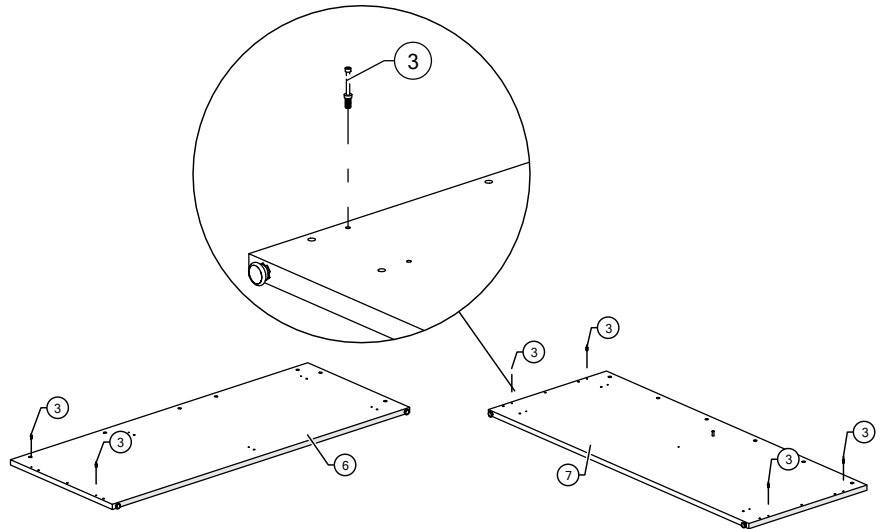

Figure 5
5. Screw in combi dowels into the pre-drilled 5 mm holes of the modesty LH and RH (Figure 5).